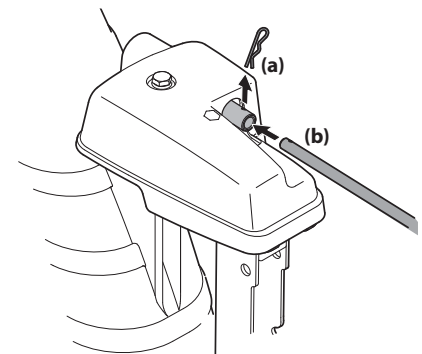

Figure 2-23
5. Remove hairpin clip (a) from rear of chute control head. See Figure 2-23.
6. Insert chute control rod (b) into rear of chute control head. See Figure 2-23. Secure chute control rod to chute control assembly with hairpin clip (a) removed in Step 5.